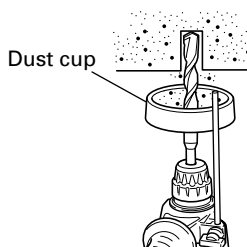
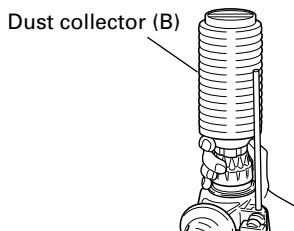

Fig. 4
Fig. 5
7. Installation of dust cup or dust collector (B) (Optional accessories) (Fig. 4, Fig. 5)
Use the dust cup by attaching to the drill bit as shown in Fig. 4.
- Installing dust collector (B)
When using dust collector (B), insert dust collector (B) from the tip of the bit by aligning it to the groove on the grip (Fig. 5)
This rotary hammer can be set to rotation and hammering mode by pressing the push button and turning the change lever to ▲ mark. (Fig. 4)